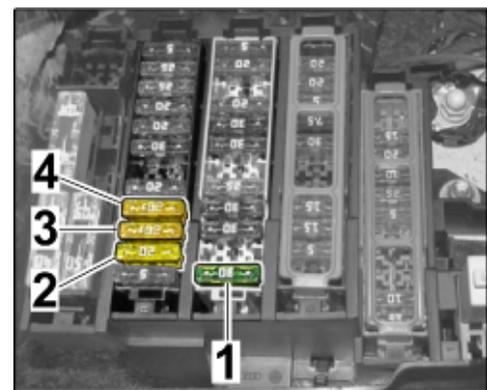

Figure 13
2.7 Secure towbar system as shown in Figure 13 (⇒ Figure 13).